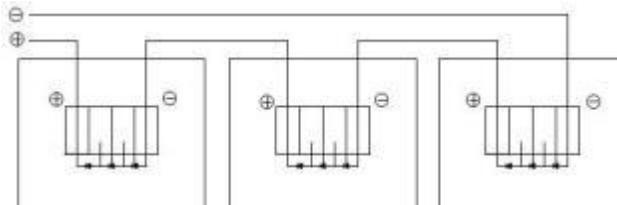
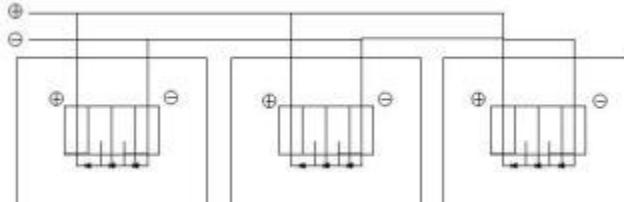

图 6-1 串联增加电压
图 6-2 并联增加电流
- 为了确保系统的正常运行，在将组件连接到电池或者其他组件时，请注意观察电缆线的极性（图 6-1 和 6-2）。如果连接不正确，旁路二极管可能会损坏。
In order to ensure the normal operation of the system, make sure the modules polarity is observed ( Fig.6-1 and Fig.6-2 ) when the modules are connected to the battery or other modules. Reverse polarity might cause damage to the protective diodes.
- 组件串联连接电压累加。从一块组件的正极接线端连接到下一块组件的负极接线端。 图 6-1 显示的是组件串联连接。
PV modules can be wired in series to increase voltage. Connect wires from the positive terminal of one module to the negative terminal of the next module. Fig.6-1 shows modules connected in series.
- 组件并联连接电流累加。从一块组件的正极接线端连接到下一块组件的正极接线端。图 6-2 显示的是组件并联连接。
Connect PV modules in parallel to increase current. Connect wires from the positive terminal of one module to the positive terminal on the next module. Fig.6-2 shows modules connected in parallel.
Fig. 6-1 in series to increase
Fig. 6-2 in parallel to increase current